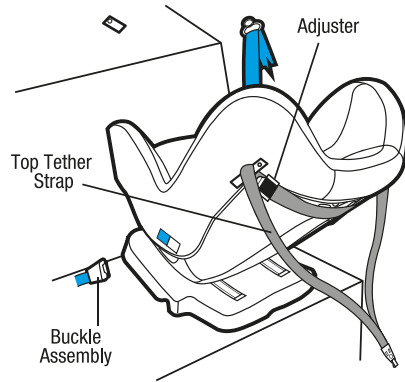

Figure 1
**Step 2:** Make sure Top Tether strap is as in illustration (Figures 1 and 2) i.e. positioned around restraint back.